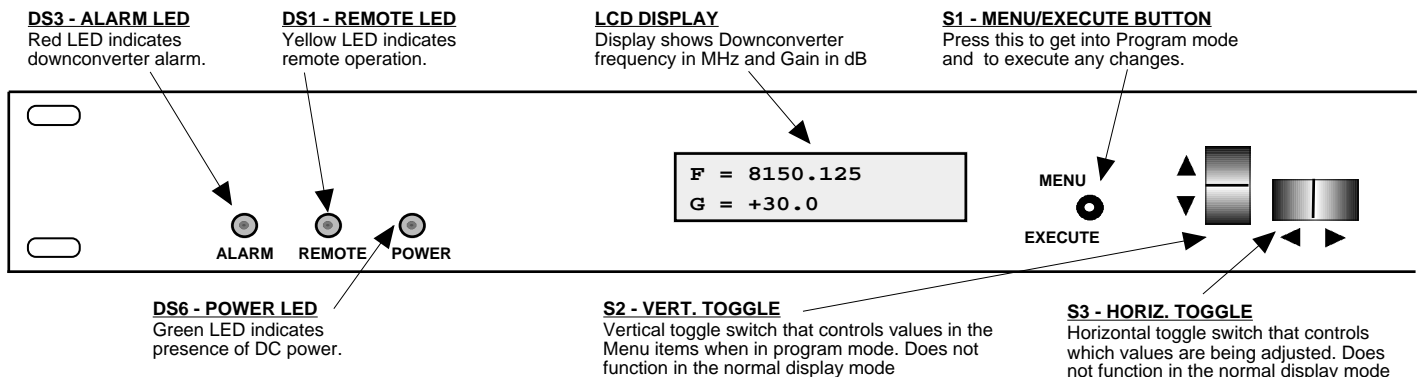

FIGURE 2.3 2016-7984-720-400 Front Panel Controls and Indicators
Figure 2.3 shows the front panel controls and indicators.
6. Be sure DS6 (green, DC Power) is on and DS3 (red, Alarm) is off (Figure 2.3).
Alarm indications appear on the LEDs (see figure 2.3).